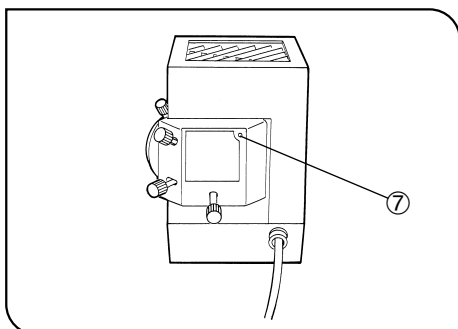

Fig. 8
4. Tighten the socket clamping screw ⑦ using the Allen screwdriver. (Fig. 8)
- ★ If the socket clamping screw ⑦ is loosened by mistake while the lamp is lit, the safety mechanism is activated to turn the light off. To turn it on again, set the main switch of the power supply unit to "O" (OFF), unplug the lamp housing's connecting cord plug from the output connector on the power supply unit, wait for about 10 minutes, tighten the socket clamping screw ⑦, then set the main switch to "I" (ON). (Fig. 8)